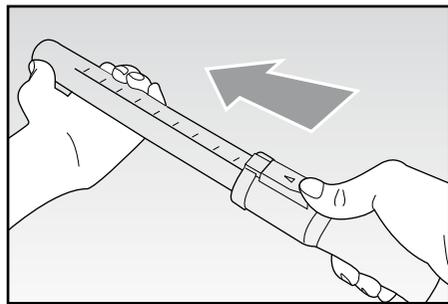

Fig. 4
Once the attachment has been fitted, it is possible to extend the telescopic tube using the lever (FIG. 4) to move it to the required length. Release the lever to stop the tube in the required position.
- Push the slider device (N) forwards and pull the bottom section of the tube out to the required length (Fig. 4). To shorten the tube, push it back in the opposite direction.